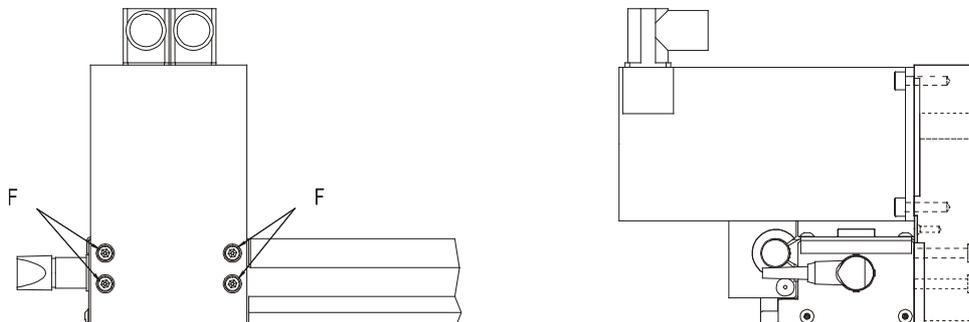

Figure 21: Linear unit and belt gear drive, version 1
- Remove/loosen the connection screws of the motor flange; the gear toothed belt is relieved (see *Figure 21*, bottom, F).
- tighten connection screws (see *Figure 21, page 24, F*).
- Screw on motor flange (see *Figure 21, page 24, F*).